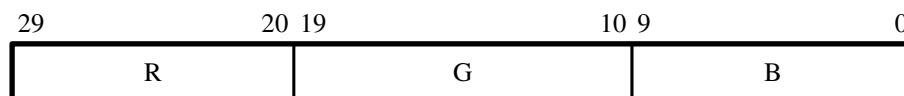

Figure 15. 30-bit RGB Color Space.
- 30-bit RGB — This format uses 10 bits for each color as shown in Figure 15. This mode is defined as 10 bits per color and three color planes.